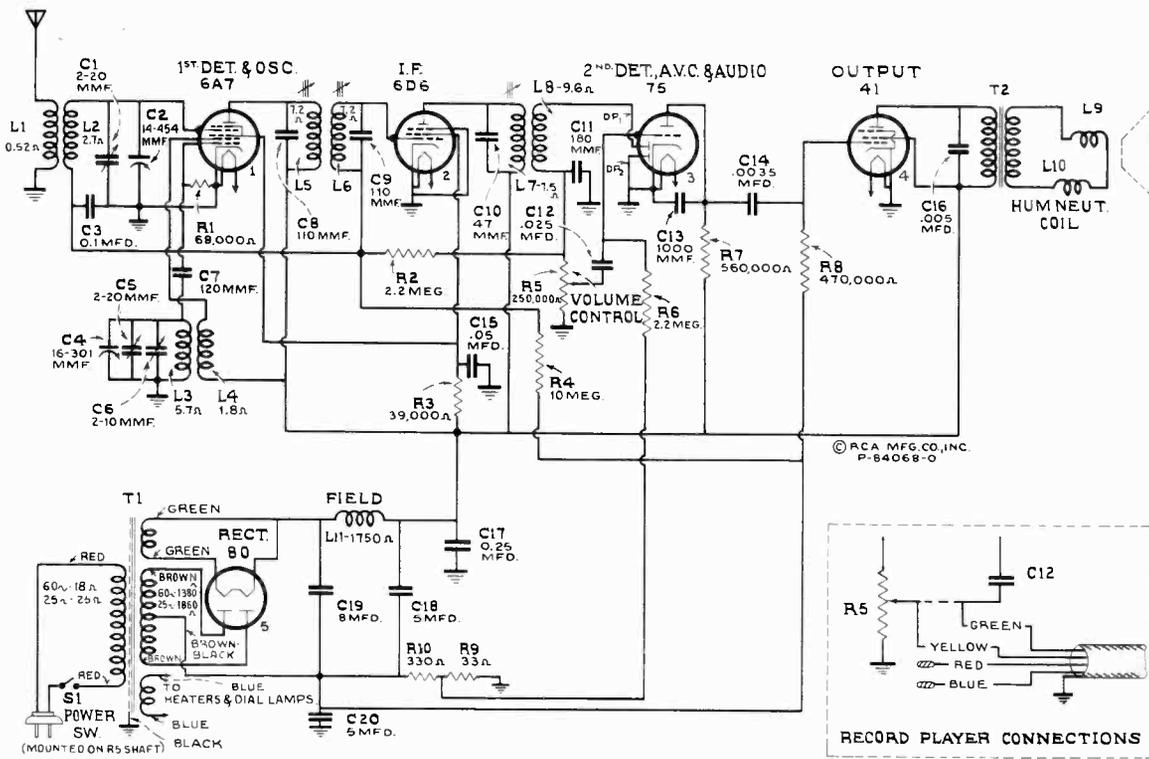

Figure 2—Schematic Circuit Diagram
This receiver employs a superheterodyne circuit, the arrangement of which is shown on figure 2. Its design includes magnetite-core adjusted i-f transformers; automatic volume
(4) Red lead from electrolytic capacitor C19 to RCA-80 socket should be dressed between power transformer and chassis apron to prevent hum pickup.
**Phonograph Attachment**—See Schematic Circuit Diagram, figure 2.